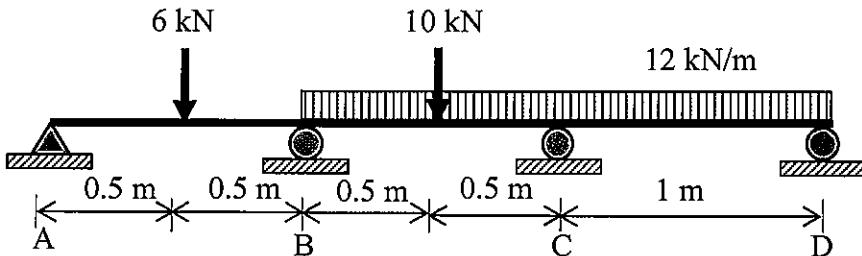

Figure B1(a) / Rajah B1(a)
- CLO1 (a) The statically indeterminate beam carries a point load and uniformly distributed load as shown in Figure B1(a). By using the Slope Deflection Method, identify the Fixed End Moment values.
- CLO1 (b) Show the Slope Deflection Equations for each member in Figure B1(a).